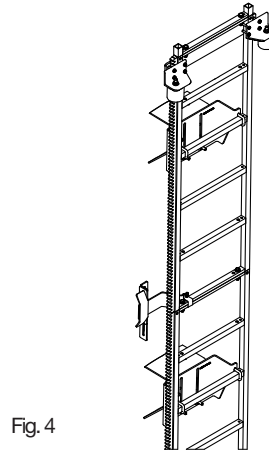

Fig. 4
4. Install the top mechanical stops and the top limit plate (see Fig. 4 and installation drawing). Use 15 N·m torque for M8 and 50 N·m for M12.